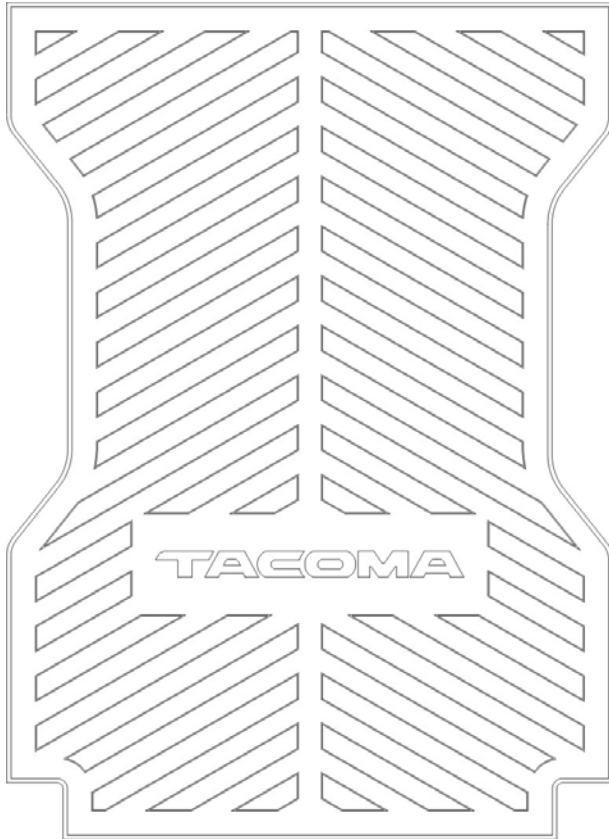

Fig 2-1
- (a) Place Bed Mat in truck bed with logo towards the rear of the truck and facing up. (Fig 2-1)